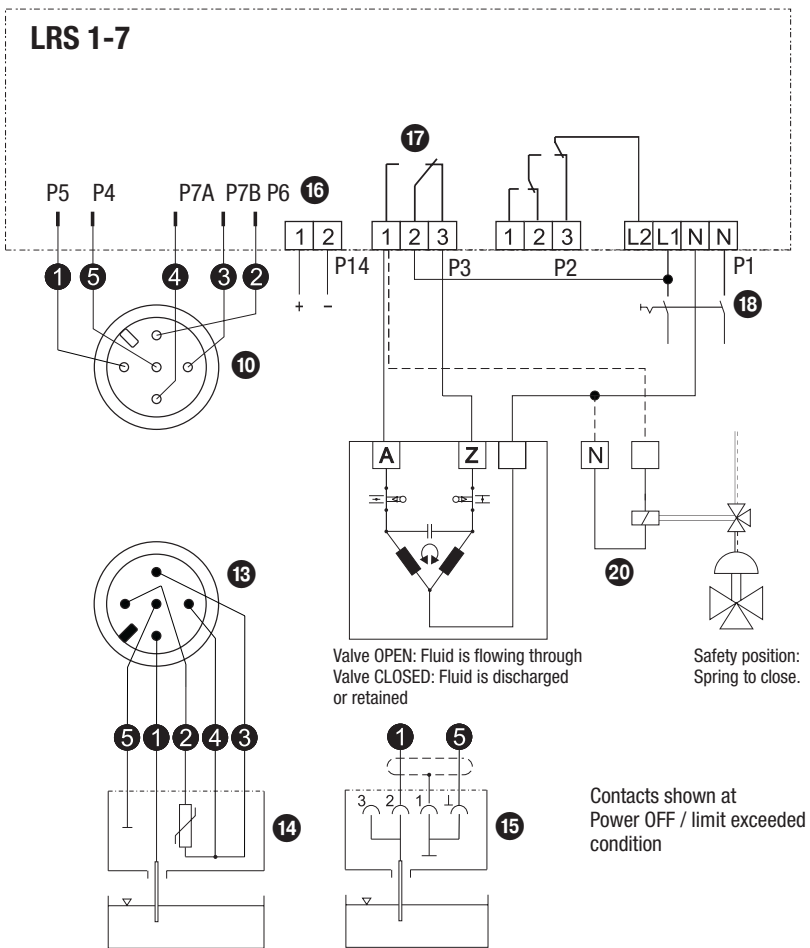
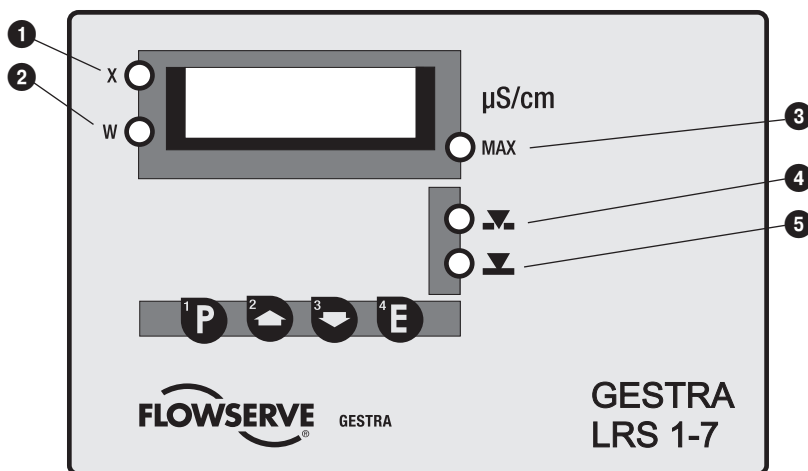

**Fig. 4**
**Fig. 5**
The conductivity electrode LRG 16-9 and the conductivity switch LRS 1-7 are equipped with M 12 sensor connectors with 5 poles and A coded; for connection see **Fig. 4 and Fig. 5**. For connecting the equipment control cable assemblies (with plug and connector) of various lengths are available as add-on equipment.
- If the above-mentioned control cable assembly is not used, the connecting line must be provided with a connector and a screened jack according to the wiring diagram **Fig. 4**.
- Connect the screen in the connector of the conductivity electrode, see wiring diagram **Fig. 4 and Fig. 5**.